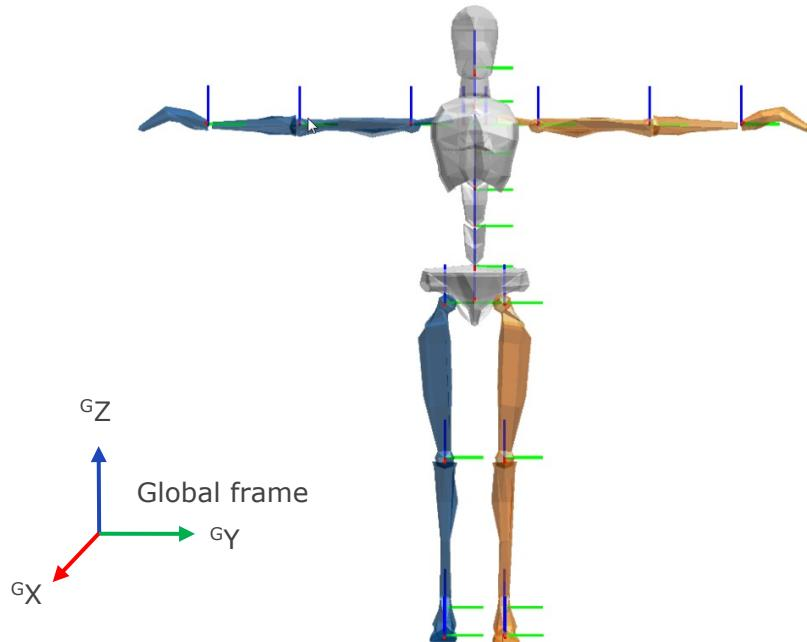

Figure 84: Segment coordinate system at each segment origin, as is used in MVN. Legend: x: red, y: green, z: blue
The axes of each body frame (B) are aligned with this Global reference frame (G) when the subject is standing in the T-pose as shown in Figure 84.
The section <segments> defines all positions (pos_b) of connecting joints (prefixed with a "j") and anatomical landmarks (prefixed with a "p") with respect to origin of that segment (in body fame *B*). The body frame (*B*) of this list of points is defined by Figure 84.